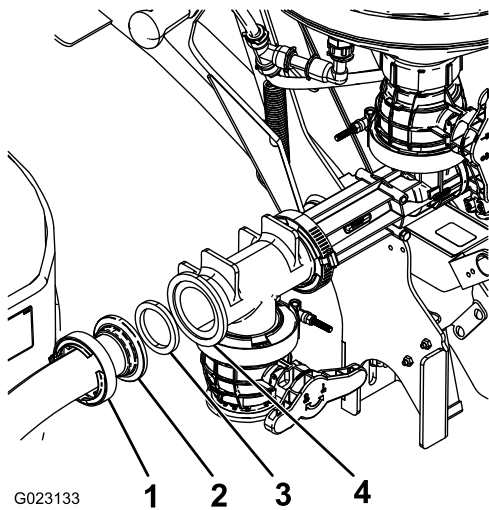

Figure 23
5. Attach the other end of the hose to the forward-facing opening of the eductor using a gasket and worm-screw clamp (Figure 23).